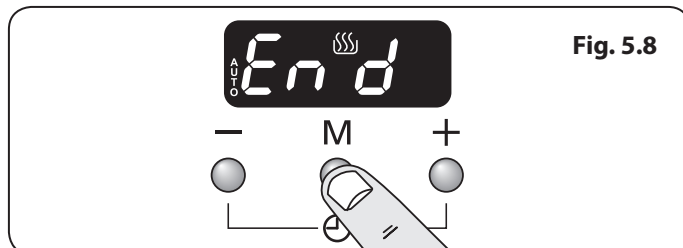
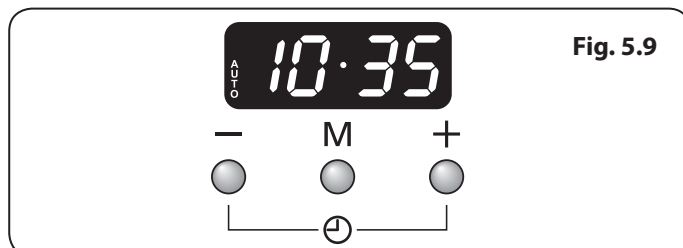

Fig. 5.8
Fig. 5.9
2. Press the mode [M] button until the display flashes 'End' (**Fig. 5.8**). Then set the 'stop time' using the [+] or [-] buttons. Current time will be displayed along with the word 'AUTO' (**Fig. 5.9**).